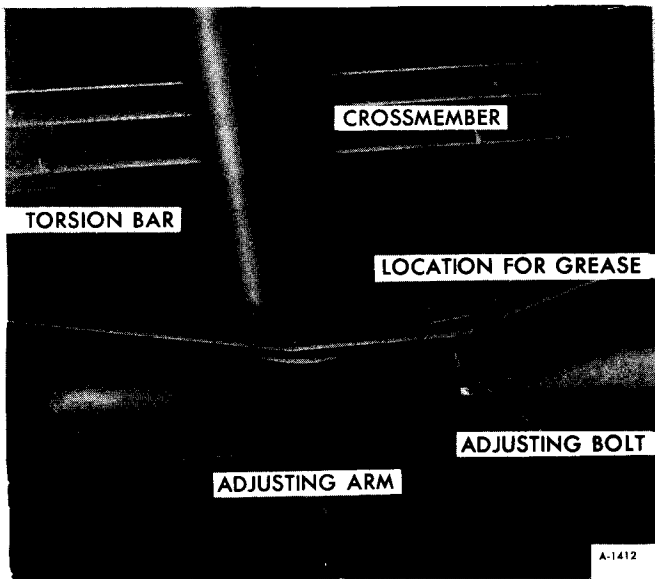

Figure 26—Location for Front Ride Height Adjustment
**NOTE:** Never attempt to increase the ride height of the vehicle using the adjusting bolt only (figure 26). The bolt will turn but will strip threads and will necessitate replacement of the bolt. Always use special tool.